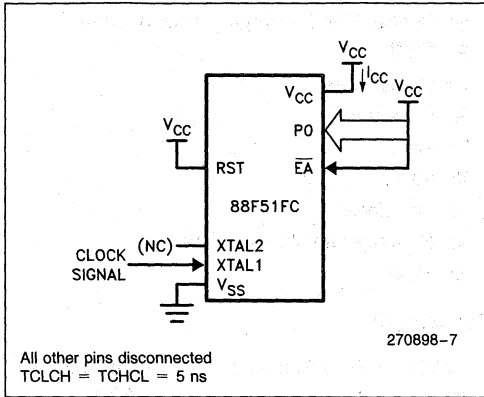

Figure 7. I_{CC} Test Condition, Active Mode
- See Figures 7–10 for test conditions. Minimum V_{CC} for Power Down is 2V.